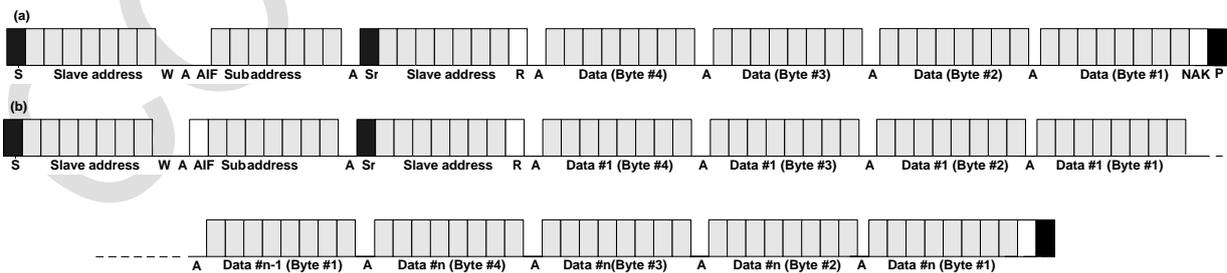

**Figure 8. Single Byte Read Mode Sequence**
**Figure 8-(a)** represents single byte reading operation from the NTP8835. To read data from the NTP8835, generate start condition to start transfer. After then, send “slave address” with write mode flag and send the register address(sub address). By regenerating start condition (Sr) again and transferring “slave address” with read mode flag, reading operation begins. The NTP8835 will generate data on SDA signal synchronizing with serial clocks on the SCL. Because the SDA signal generated from the NTP8835, the master device must generate ACK on 9th slot to confirm that the master received read 1 byte successfully. However, if this is just one byte reading operation, NAK (not acknowledged) signal must be generated. Then stop condition must be generated to end transfer.
When AIF set to high on sub address like **Figure 8-(b)**, data will be read continuously with register addresses which are increased from initial “sub address” for every byte. In continue reading operation, the master must generate ACK signal on every 9th bit of the packet to confirm that master has received 1 byte successfully. Otherwise, reading operation will be terminated.
The type presented on **Figure 9-(b)** is quad byte read operation under address auto increment mode, AIF function. Please compare the data receive size between **Figure 8** and **Figure 9**.